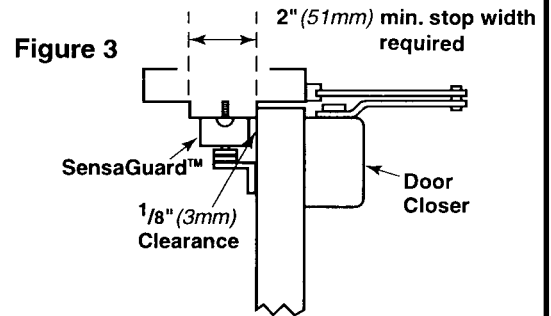

Figure 3
7. Leave a 1/8" gap between the door and the unit (see Fig. 3).